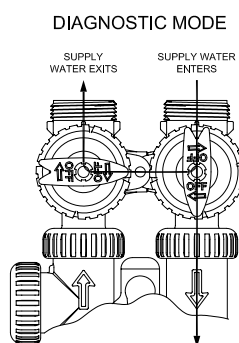

figure 3
3. Diagnostic Position: The inlet handle points in the direction of flow and the outlet handle points to the center of bypass valve, system water pressure is allowed to the control valve and the plumbing system while not allowing water to exit from the control valve to the plumbing. (see figure 3)